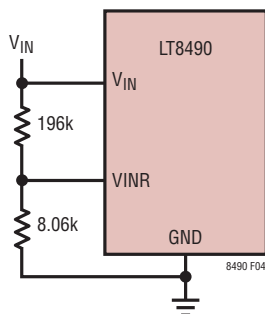

Figure 4. VINR Resistor Divider Circuit
**VINR DIVIDER NETWORK:** The LT8490 can be powered by a solar panel or a DC power supply. As discussed later in DC Supply Powered Charging, the VINR pin must be pulled low when being powered by a DC supply. Otherwise, VINR must be connected to the resistor divider network as shown in Figure 4.
**SELECTING POWER SUPPLY MODE:** When powered by a DC voltage source, the VINR pin must be pulled below 174mV (typical) to activate power supply mode. This disables unnecessary solar panel functions and allows the LT8490 to operate properly from a DC voltage source. If the application is never powered by a solar panel, VINR can be grounded. If the application is only powered by a solar panel, then connect VINR as shown in Figure 4. Otherwise, see the Optional DC Supply Detection Circuit section for a method to pull down the VINR pin when a DC supply is detected.